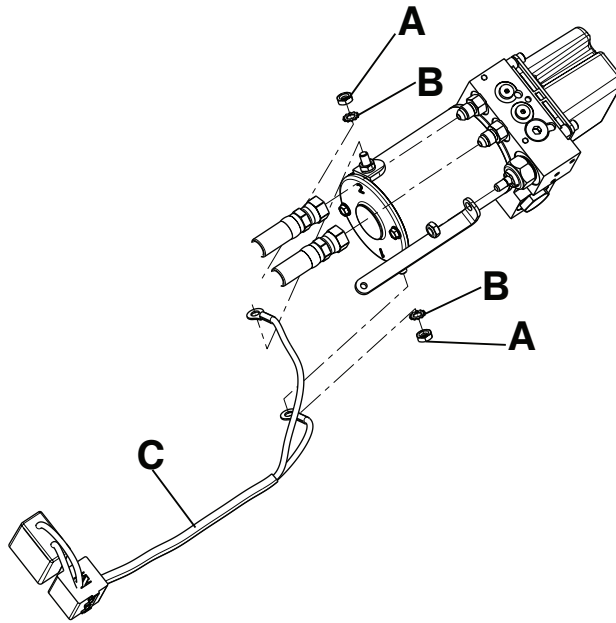

Figure 42 – Motor assembly
4. Using a 7/16" combination wrench, remove the two nuts (A) and star washers (B) that secure the motor cable (C) to the motor assembly (Figure 42). Save the nuts and washers.